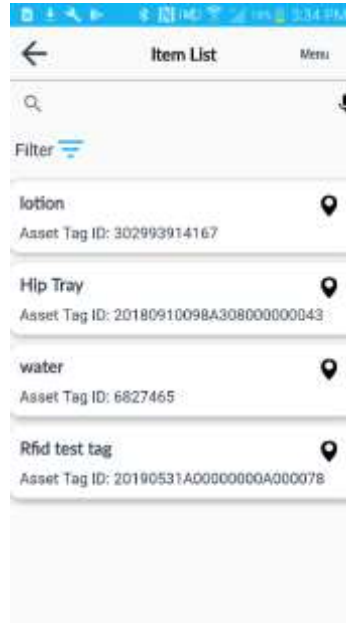

Figure 38
- To delete in item or tray, tap Menu on the home screen, tap Item List, then select from the items listed, then tap on the item or tray to be deleted. **Fig. 38**